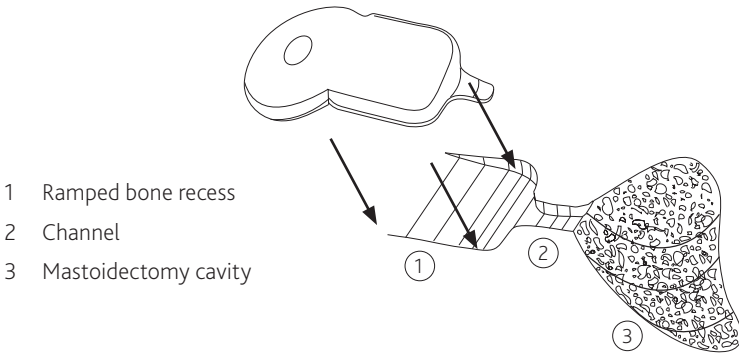

Figure 7: Ramped bone recess, electrode channel and mastoidectomy
5. Drill a channel to connect the bone recess and mastoid cavity — see *Figure 7* above. The channel will help protect the electrode against trauma.